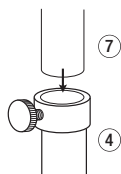

Figure 2
2. Slide stainless steel inner pole inside outer pole with open end up. Make sure shock absorbing spring is inside the outer pole and tighten. (Figure 2)